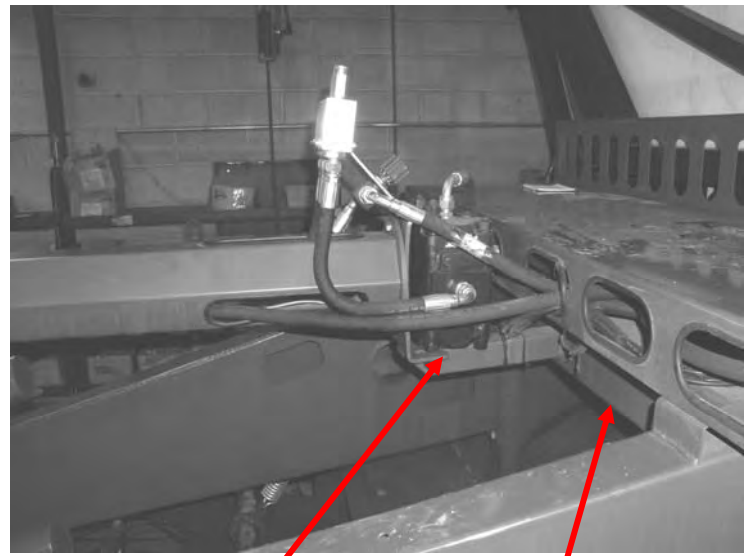

Figure 2 Save this mount Remove this tubing
2. Unbolt flow divider and synchronizing valve. (Figure 2)
4. The 3-1/8" x 4-3/4" tube (Cut flow divider mount off and save till later) and sheet metal angle under the walkway can now be removed. (Figure 2) A. \*